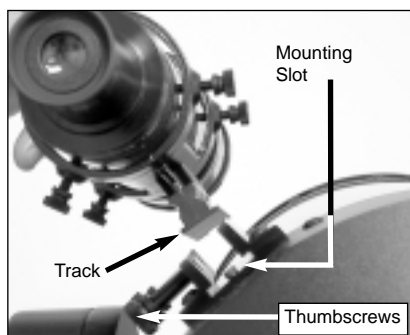

Fig. 6a: Viewfinder Assembly.
1. Slide the track on the bottom of the viewfinder into the slot in the viewfinder mounting assembly. See Fig. 6a. To secure the viewfinder to the mounting assembly, tighten the two thumbscrews (Fig. 6a) to a firm feel only.